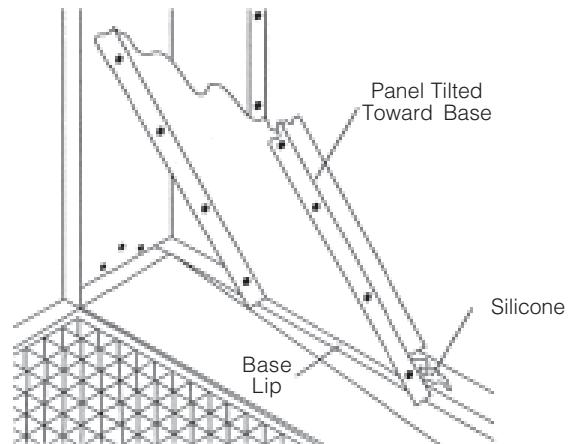

Figure 3-11. Install Side Panel
10. Position bottom of panel on base lip, with the panel tilted toward inside of base and two inches away from installed panel (see Figure 3-11). Using your foot, hold bottom of panel on the lip and slide panel over to within 1/2 inch of the installed panel. Raise panel up into place; avoid smearing the silicone. Insert alignment pins through farthest holes, one along horizontal joint and one along vertical joint as high as possible.